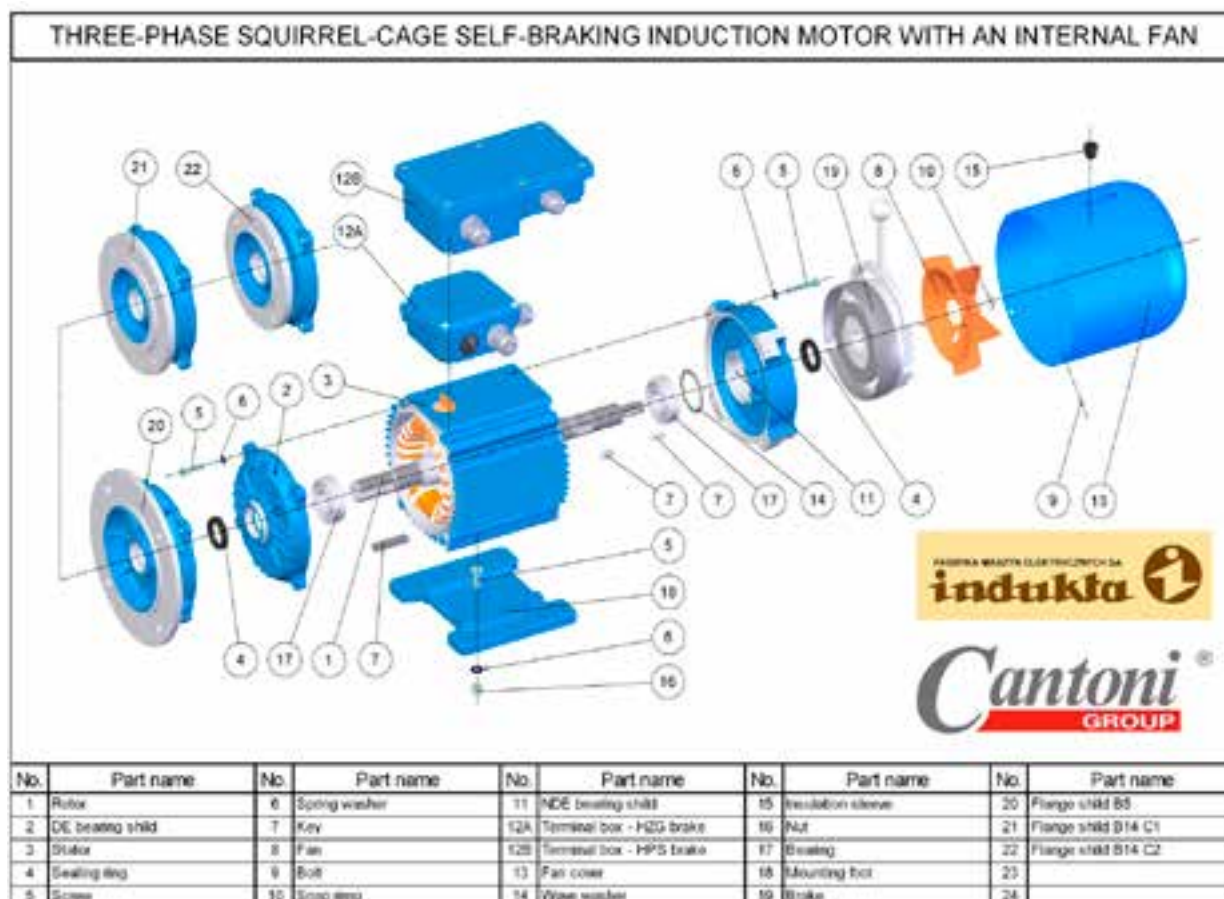

Fig. 11
In case of a motor with a brake (fig. 11), prior to the disassembly of the motor it is necessary to disassemble the brake (19).